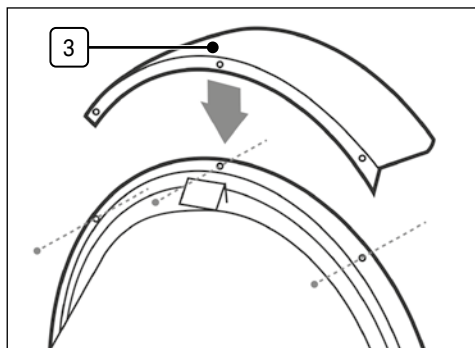

Fig. 1
6.1 Fitting the Reflector (Fig.1)